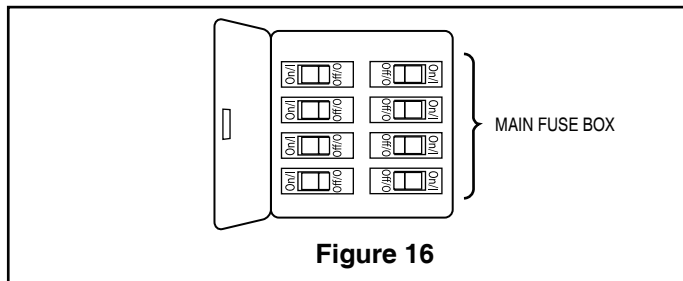

Figure 16
- 1. Restore electrical power to the outlet box by turning the electricity on at the main fuse box. (Figure 16)